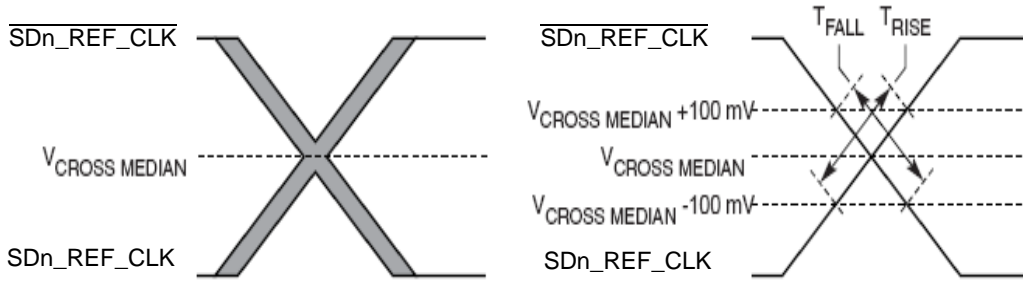

Figure 48. Single-Ended Measurement Points for Rise and Fall Time Matching
4. Matching applies to rising edge rate for SDn_REF_CLK and falling edge rate for $\overline{\text{SDn_REF_CLK}}$. It is measured using a 200 mV window centered on the median cross point where SDn_REF_CLK rising meets $\overline{\text{SDn_REF_CLK}}$ falling. The median cross point is used to calculate the voltage thresholds the oscilloscope is to use for the edge rate calculations. The Rise Edge Rate of SDn_REF_CLK should be compared to the Fall Edge Rate of $\overline{\text{SDn_REF_CLK}}$, the maximum allowed difference should not exceed 20% of the slowest edge rate. See Figure 48.